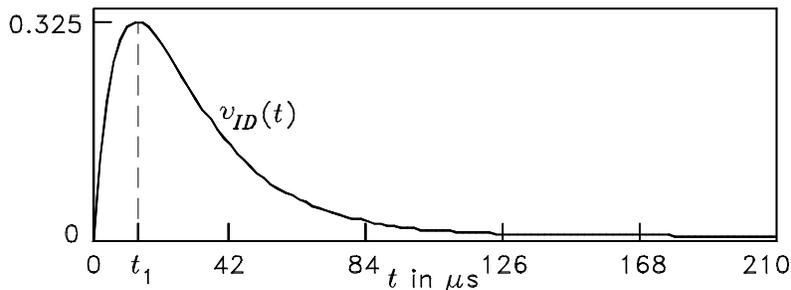

Figure 8: Plot of  $v_{ID}$  as a function of  $t$  for Example 8.
*Solution.* The amplitude of the input step is  $V_1 = 13/10 = 1.3$  V. Eqs. (46) and (47) give  $t_1 = 13.9 \mu\text{s}$  and  $v_{ID}(t_1) = 0.325$  V. A plot of  $v_{ID}(t)$  versus  $t$  is shown in Fig. 8. The low-pass filter has reduced the peak overload of the diff amp by the factor  $1.3/0.325 = 4$  or by 12 dB.
*Solution.* In Eq. (35), we let  $v_{ID\max} = v_{ID}(t_1) = 0.325$  V. Thus  $R_E$  is given by  $R_E = (0.325 - V_T \ln 19) / 0.9I_Q = 5.53$  k $\Omega$ , where we have assumed that  $V_T = 0.0259$  V.